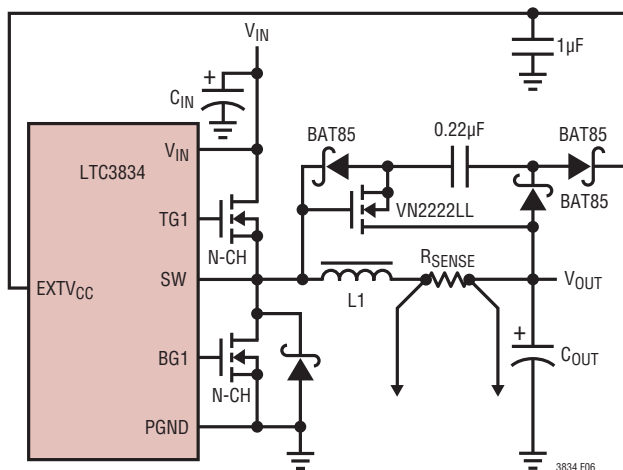

Figure 6. Capacitive Charge Pump for $EXTV_{CC}$
The optional Schottky diode D1 shown in Figure 6 conducts during the dead-time between the conduction of the two power MOSFETs. This prevents the body diode of the bottom MOSFET from turning on, storing charge during the dead-time and requiring a reverse recovery period that could cost as much as 3% in efficiency at high V_{IN} . A 1A to 3A Schottky is generally a good compromise for both regions of operation due to the relatively small average current. Larger diodes result in additional transition losses due to their larger junction capacitance.
4. EXTV_{CC} Connected to an Output-Derived Boost Network. For 3.3V and other low voltage regulators, efficiency gains can still be realized by connecting EXTV_{CC} to an output-derived voltage that has been boosted to greater than 4.7V. This can be done with the capacitive charge pump shown in Figure 6.